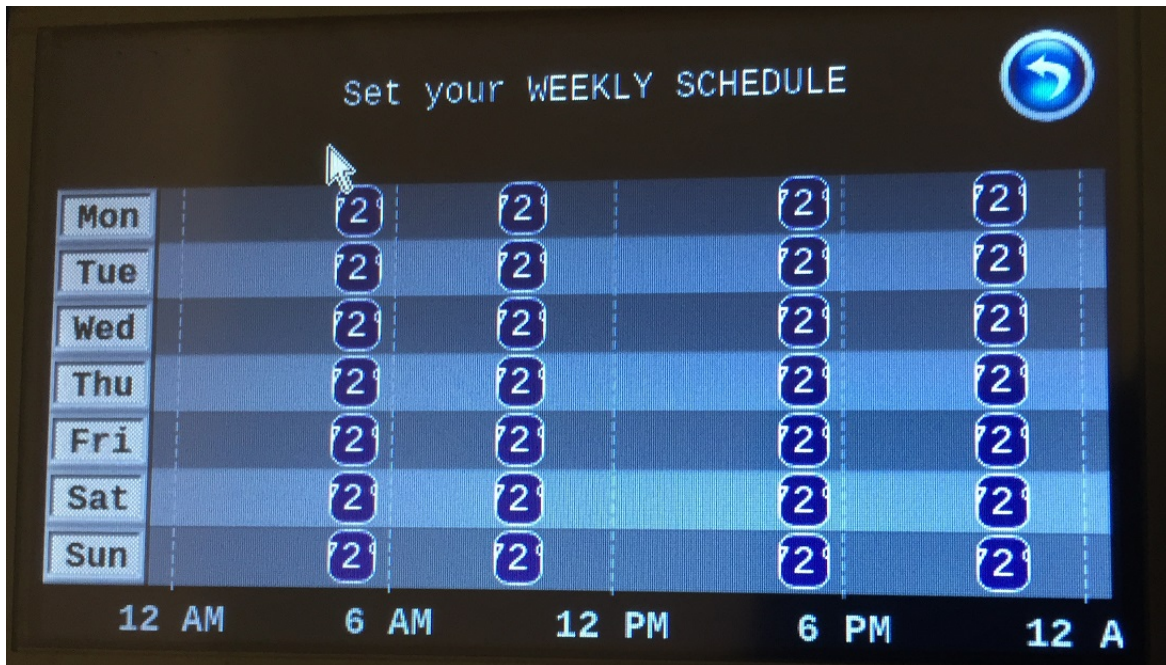

Figure 11. Smart Thermostat Demo GUI: Weekly Schedule Screen
6. The Scheduler icon in Figure 9 leads to the weekly schedule screen shown in Figure 11.